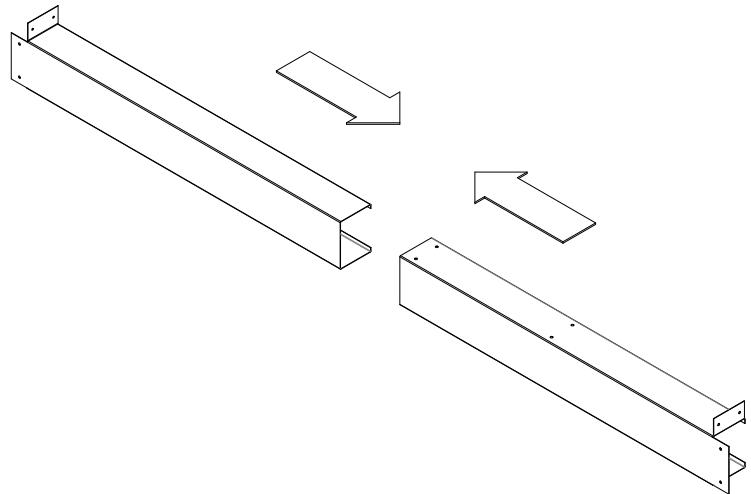

Figure 15: Steel Stud Assembly
- Take the two steel stud pieces and slide them into each other. The flanges of each piece should be at the end of the assembly, as well as facing upwards as shown in Figure 15.